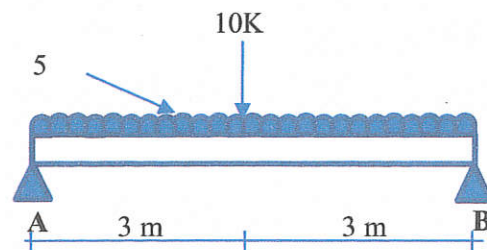

Figure 3a
- c. Based on figure 3a, determine the equation of the elastic curve of the beam and Calculate the slope at the end of point B.